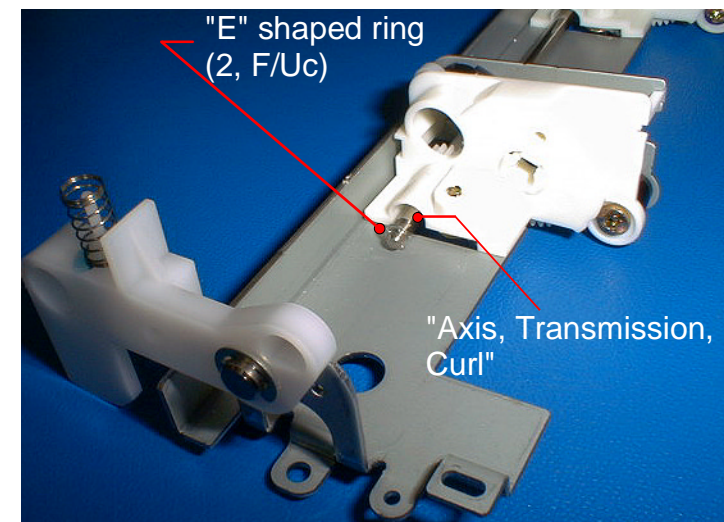

Figure 4-132. Releasing "Axis, Transmission, Curl"
8. From the opposite side to the other side that "Upper surface sensor" is attached, remove one "E" shaped ring(2, F/Uc) on the "Axis, Transmission, Curl". (See figure4-132)